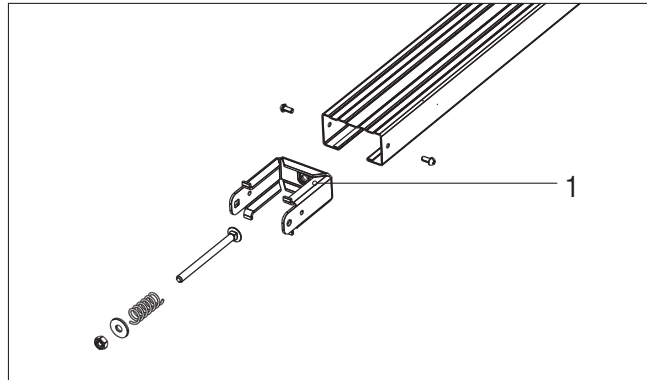

Fig. 1
2. Disassemble a chain tensioner mechanism, pos. 1 (fig. 1).